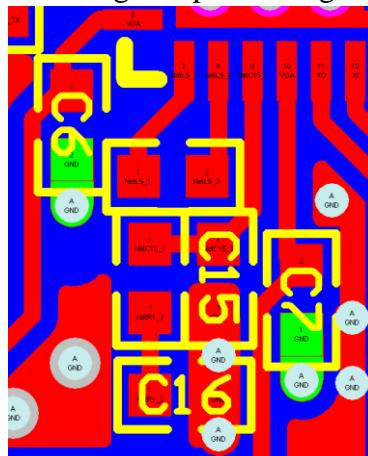

Fig. 2.2d
6. To get better performance, the ground pins of C6 (bypass capacitor of VDD_VCO), C7 (bypass capacitor of VDD_PLL), C15 and C16 (capacitors of the loop filter) should connect to the ground plane on bottom layer and be isolated to the ground plane on top layer. Please refer to the green pads in Fig. 2.2d.